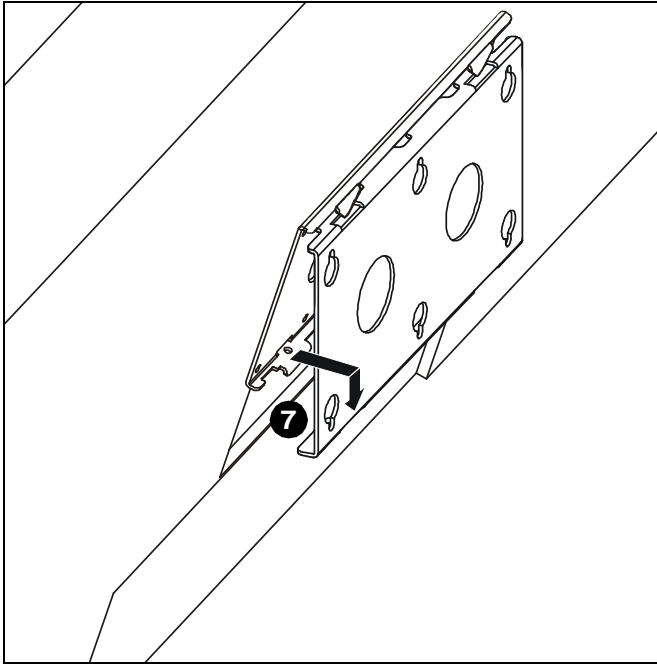

Figure 11
7. Making sure upper tabs are in position from Step 6, insert lower tabs on front plate into lower slots on wall bracket. (See Figure 11)